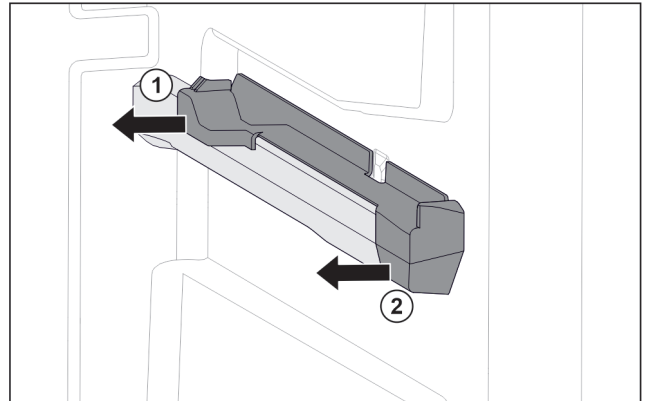

Fig. 26 Attachment on the right molded rib
- ▶ Pull off attachment at the back sideways. Fig. 26 (1)
- ▶ Pull off attachment at the front sideways. Fig. 26 (2)